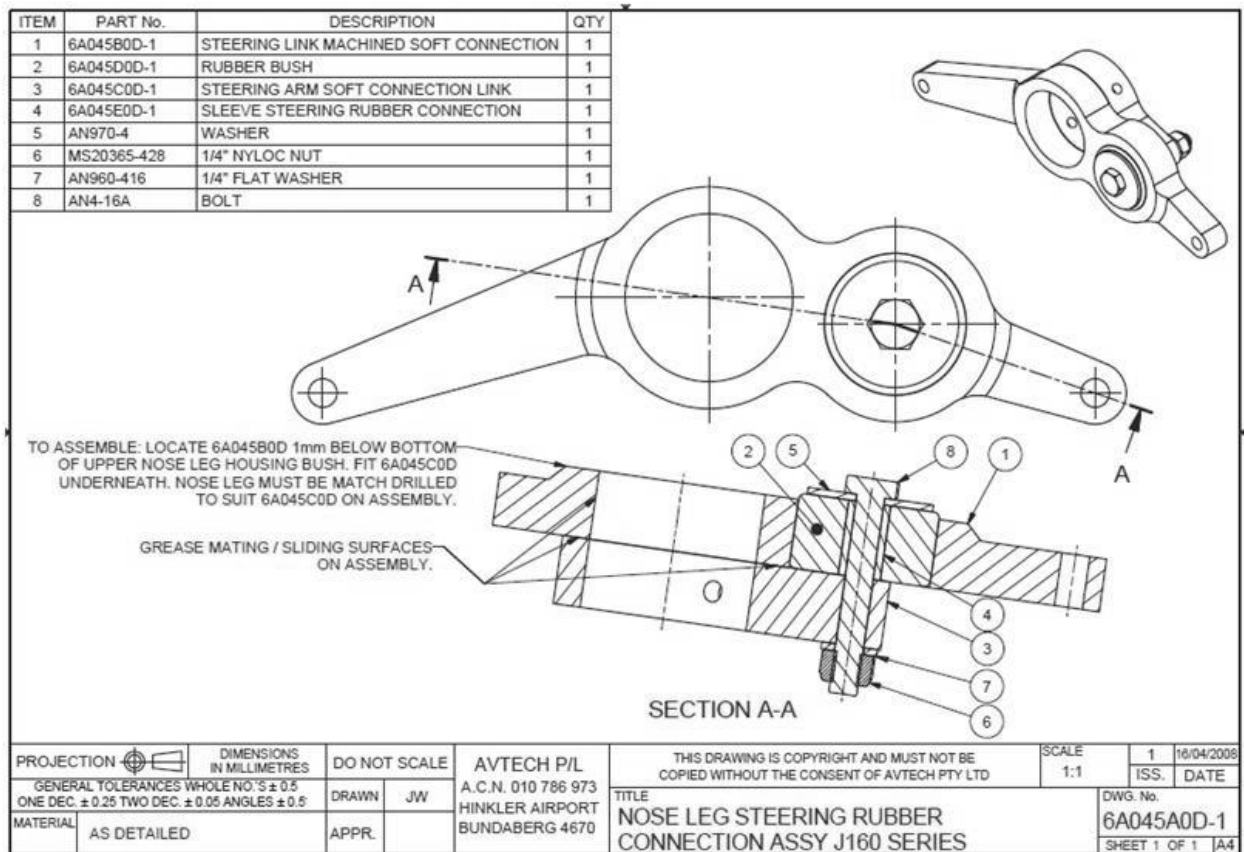
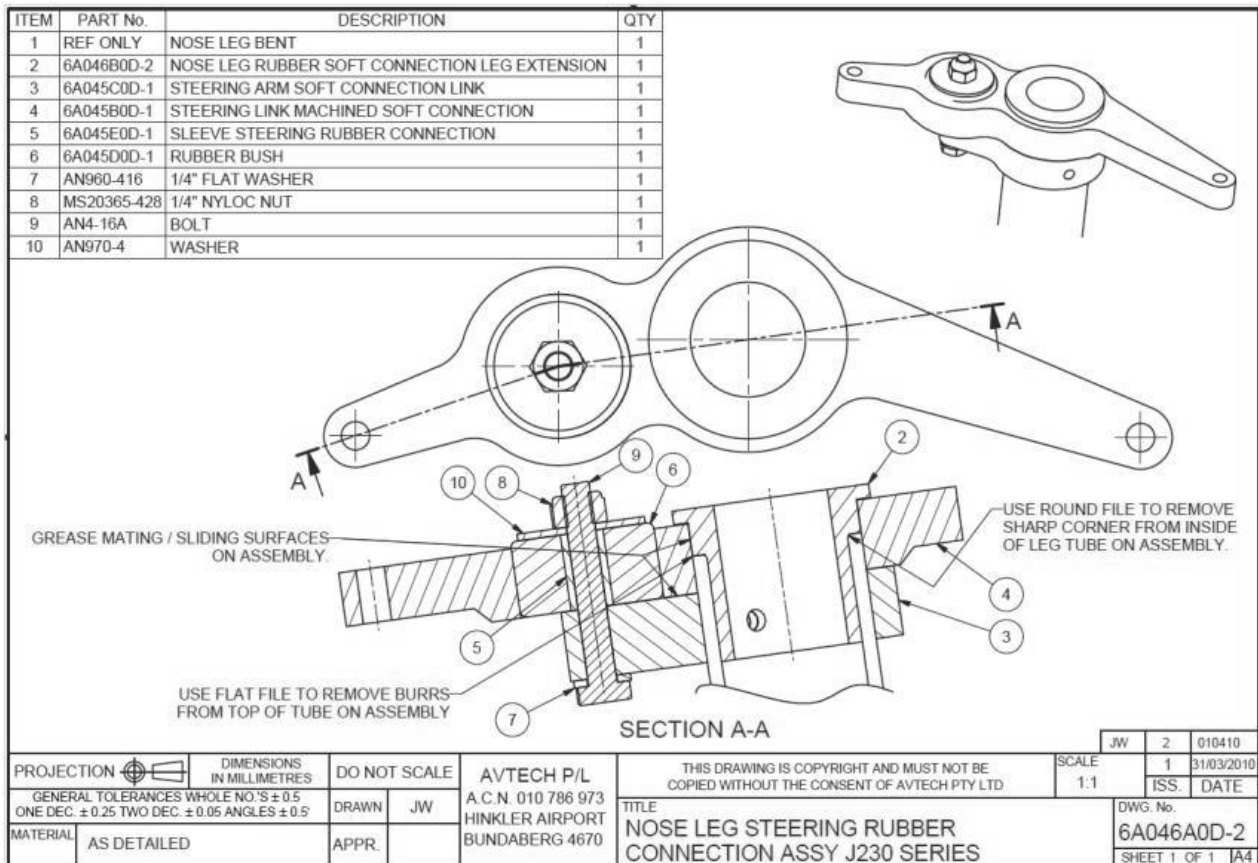

Figure 82 – Nose Leg Soft Link Assy, J160 Family (J120, J160, J170)
Figure 83 – Nose Leg Soft Link Assy, J200 Family (J200/400, J230/430, J250/450)
- For all models the nose wheel steering system consists pushrods directly connecting the rudder pedals to the nose leg assembly. The systems are shown in Section 0. For some models a “soft link” is fitted between the nose leg and the rudder pedals to absorb vibrations. Details of this assembly are shown below (Figure 82 and Figure 83).